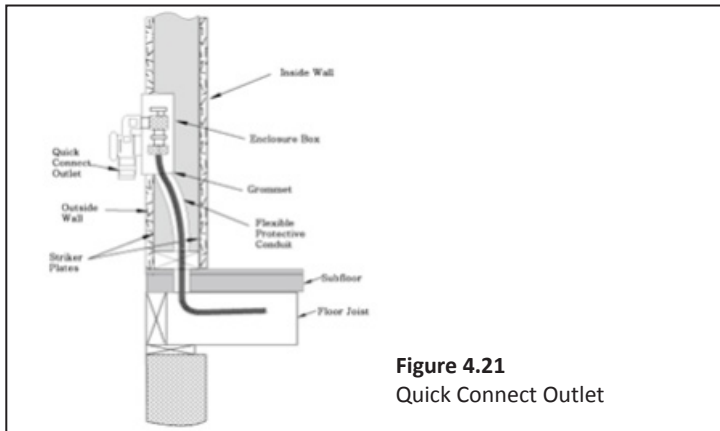

Figure 4.21
▶ As with movable indoor appliances, movable barbecue grills, heaters, and other appliances should not be directly attached to DooBon Flexible CSST (Figure 4.21). An approved outdoor appliance connector should be used to make the connection from the BBQ to the piping system at a special termination flange, a steel nipple, or a quick-connect device as described in Section 2.6. Follow manufacturer's installation instructions.